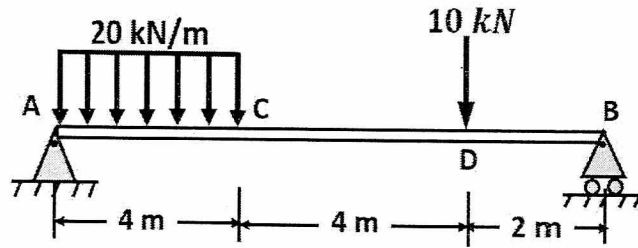

Figure 3.
- (b) A simply supported beam AB, 10 m long, is loaded as shown in **Figure 3**. Construct the shear force and bending moments diagrams for the beam. [4]